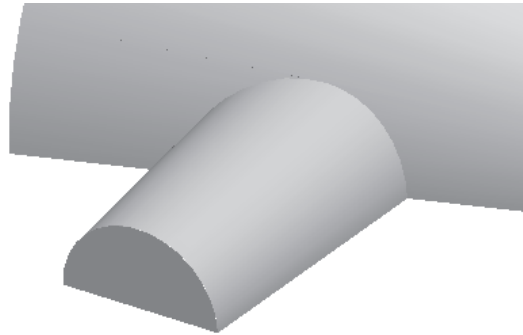

Figure 14-82 Surface after creating the fill surface
- Exit the **Sketcher** environment and then exit the **Fill** dashboard by choosing the **Build Feature** button. The Fill surface is created, as shown in Figure 14-82.